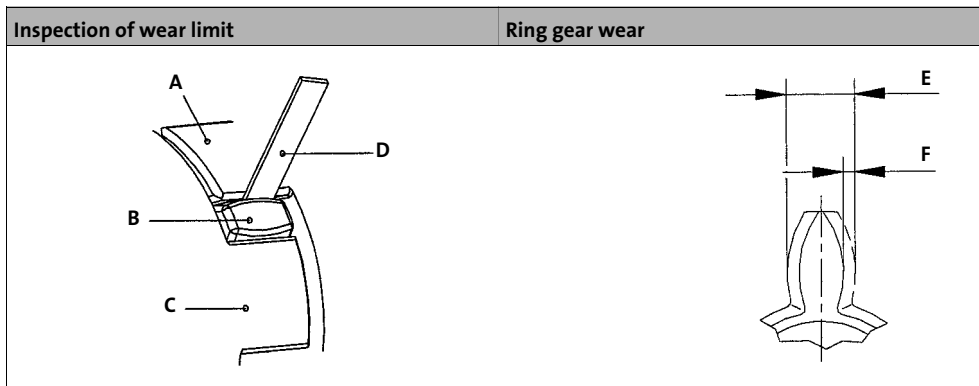

Fig. 5 Inspection: wear
1. Remove the screw plug (item 1) for the wear and backlash check.
2. Check the clearance between clutch hub and elastic ring gear with a feeler gauge (Fig. 5).
4. After performing the test, the opening (item 1) must be closed again with the screw plug.